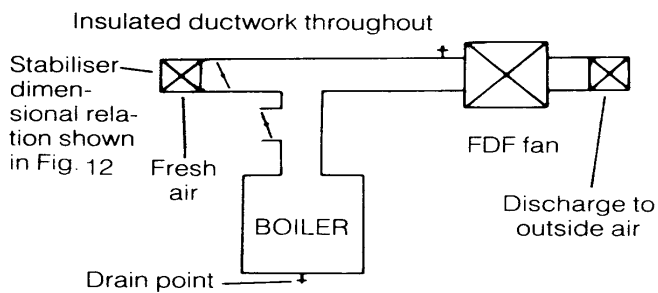

Fig.6 Application of Draught Stabiliser
2. A draught stabiliser MUST be fitted to all types of flue systems and set to control the draught in the casing between neutral and 0.2 mbar (0.08 in.w.g.) irrespective of flue height or number of modules firing. (see Figs. 6 and 7 for further guidance).